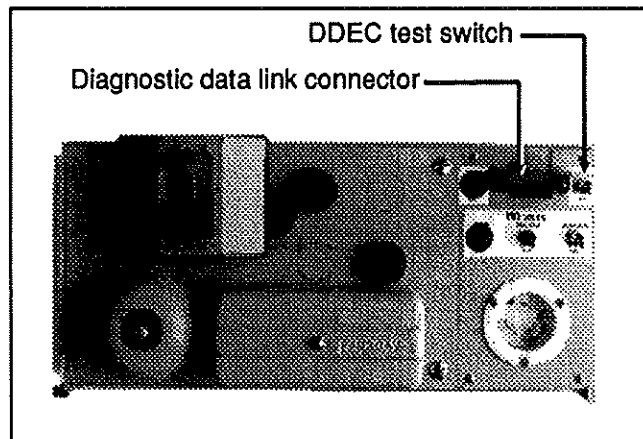

Fig. 10 - Alarm junction box
4. **"DDEC Test" switch:** This switch is mounted on the front face panel of the alarm junction box which is located in the front service compartment (see fig. 10). This switch will illuminate the "Check Engine" warning light in dashboard in a series of flashes separated by a pause. For example, a code "43" consists of four flashes, followed by a short pause, then three flashes in quick succession. A complete diagnostic code list is given later in this section.
5. **"Diagnostic Data Link" (DDL) connector:** This connector, which is mounted on the front face panel of the alarm junction box (see fig. 10), allows the use of the Diagnostic Data Reader (DDR) or the scanner (not supplied) to read the codes or the modes which are pertinent data on the engine condition. This enables a more complete analysis of any defect found in the DDEC system operation.